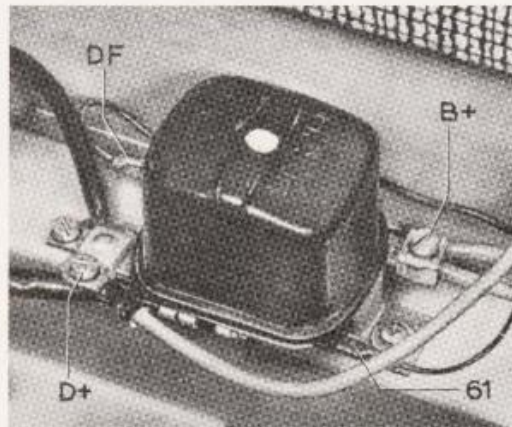

Fig. C-12. Close-up view of generator regulator on early Fastback and Squareback models shows location of terminals.
To make an accurate and conclusive test of a generator, a voltmeter should be employed. Since the amount of the charging current depends on the state of charge of the battery, the on-car test is made at the regulator terminal. Disconnect cable from terminal B+ (51) at the regulator, Fig. C-12. Connect the positive lead of a voltmeter to terminal B+ (51) at the regulator and ground the negative lead.